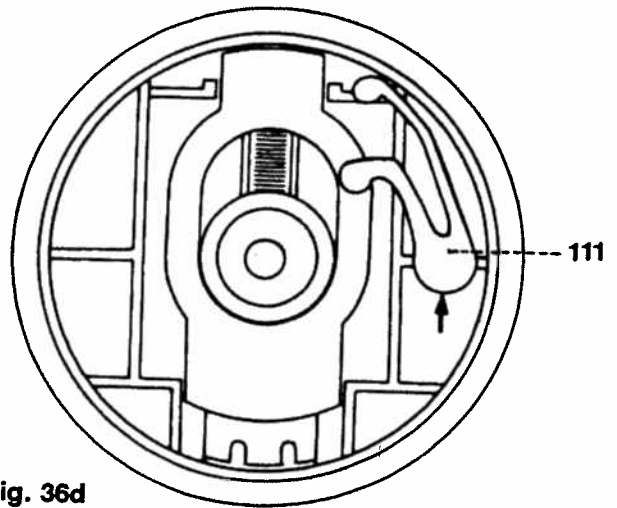

Fig. 36d
- Push the pin of pawl 111 into the hole in such a way that it is positioned as shown in fig. 36d.